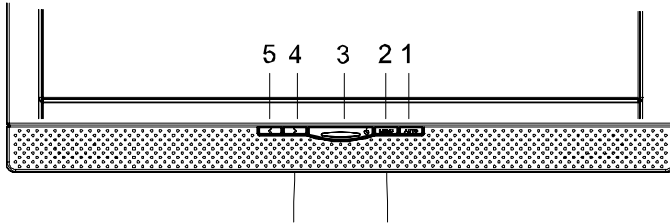

Figure 4. Monitor features
1. First start your PC and then turn on your monitor using the power switch (ⓐ in fig. 4).
The status indicator (ⓐ in fig. 4) should light up green.
You can adjust the image settings (such as brightness, contrast, image position, phase, etc.) manually or by using the LCD monitor’s automatic image adjustment feature. This will adjust the image parameters to their optimal settings for the current graphics mode. Press AUTO (ⓐ in fig. 4) to launch the automatic adjustment. The process will take a short while until completed.
You can adjust the speaker volume of the integrated audio system directly by pressing the ► buttons (ⓐ in fig. 4) while the OSD menu is inactive. Next press the ► button to increase the volume or the ◀ button to decrease it.
You can adjust brightness and contrast directly by pressing the ◀ buttons (ⓐ in fig. 4) while the OSD menu is inactive. Next, press the ◀ or ► buttons (ⓐ and ⓑ in fig. 4) to adjust the brightness or the ◀ or ► buttons (ⓐ and ⓑ in fig. 4) while the OSD contrast.
Press the **MENU** button (② in fig. 4) to display the OSD menu on the screen.
1. There are a total of 5 OSD submenus divided by categories. Select the desired submenu by pressing the ◀ or ▶ button (④ and ⑤ in fig. 4; see section "OSD Menu Functions").
2. Press the button **MENU** (② in fig. 4) to activate the selected function or associated submenu.
3. If you selected submenu, now select the sub-function you want using the ◀ or ▶ buttons (④ and ⑤ in fig. 4).
5. Press the **MENU** button (② in fig. 4) to save the setting. Repeat setups 2-5 to make further adjustments as needed.
6. The OSD menu automatically disappears if no changes are made for more than 20 seconds (default setting). The current settings will be saved. You can close it manually by pressing the **AUTO** button (① in fig. 4).